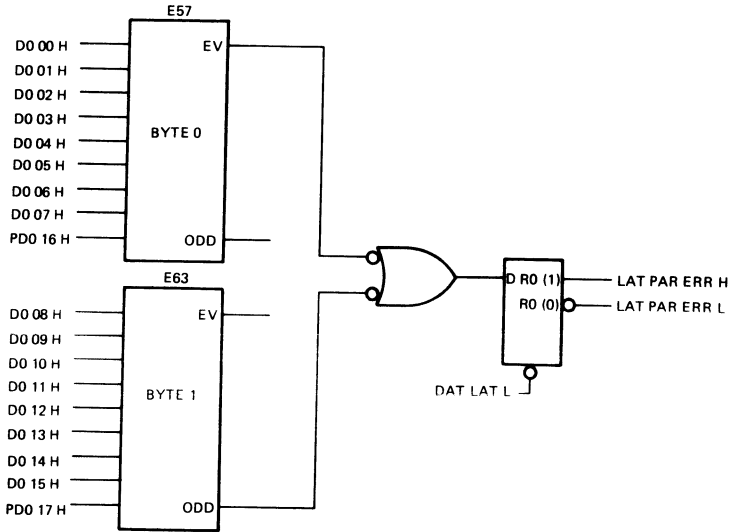

Figure 19-21 Parity Detection
**Parity Checking**—The MSV11-L memory modules detect, report, and save the address of parity errors. Parity detection logic (Figure 19-21) on reads expects byte 0 to have an even number of 1 bits and byte 1 to have an odd number of 1 bits. If this does not happen, a parity error is detected. The parity error signal is called LAT PAR ERR.